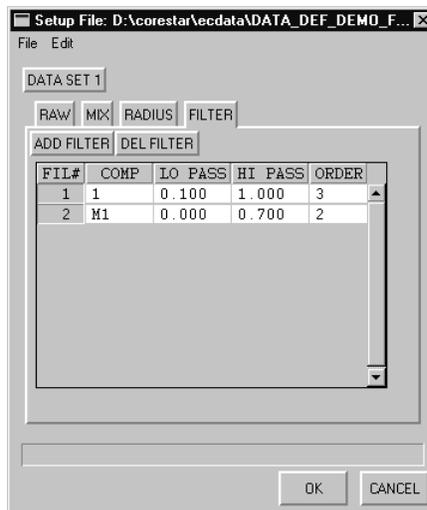

Figure 3-101. Setup Dialog - FILTER Tab
- **SETUP > FILTER Tab:** The **FILTER** tab on the **Setup** dialog is shown in Figure 3-101. This dialog displays current filter settings, if any, and is used to create new filtered channels. Filtering is useful for signal smoothing, filtering out extraneous noise, etc. Figure 3-101 shows two (2) filter channels. Filter# 1 is setup with a 10% low-pass by a 100% high-pass 3rd order bandpass filter for raw channel number 1. Filter# 2 is setup with a 0% low-pass by a 70% high-pass 2nd order bandpass filter for mix channel M1. The **ORDER** value controls the smoothing effect of the filter. Higher orders smooth signals more while lower orders smooth signals less. The effect of the **LO PASS** (low) and **HI PASS** (high) settings are shown in Table 3-1:
- **Click** the **ADD FILTER** button shown in Figure 3-101 and a new empty filter channel will appear at the bottom of the **FILTER** dialog - much like the **MIX** dialog discussed in the previous topic;